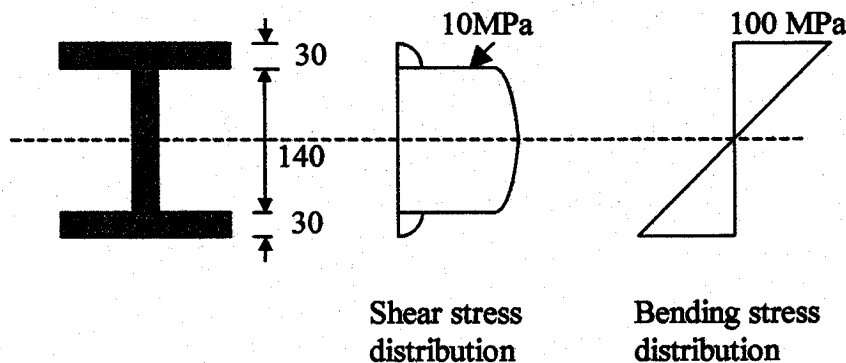

Figure 2
4. A 200mm deep symmetrical I-beam carries a point load at the center of a simply supported span. The resulting shear stress and bending stress distributions are shown in Figure 2.